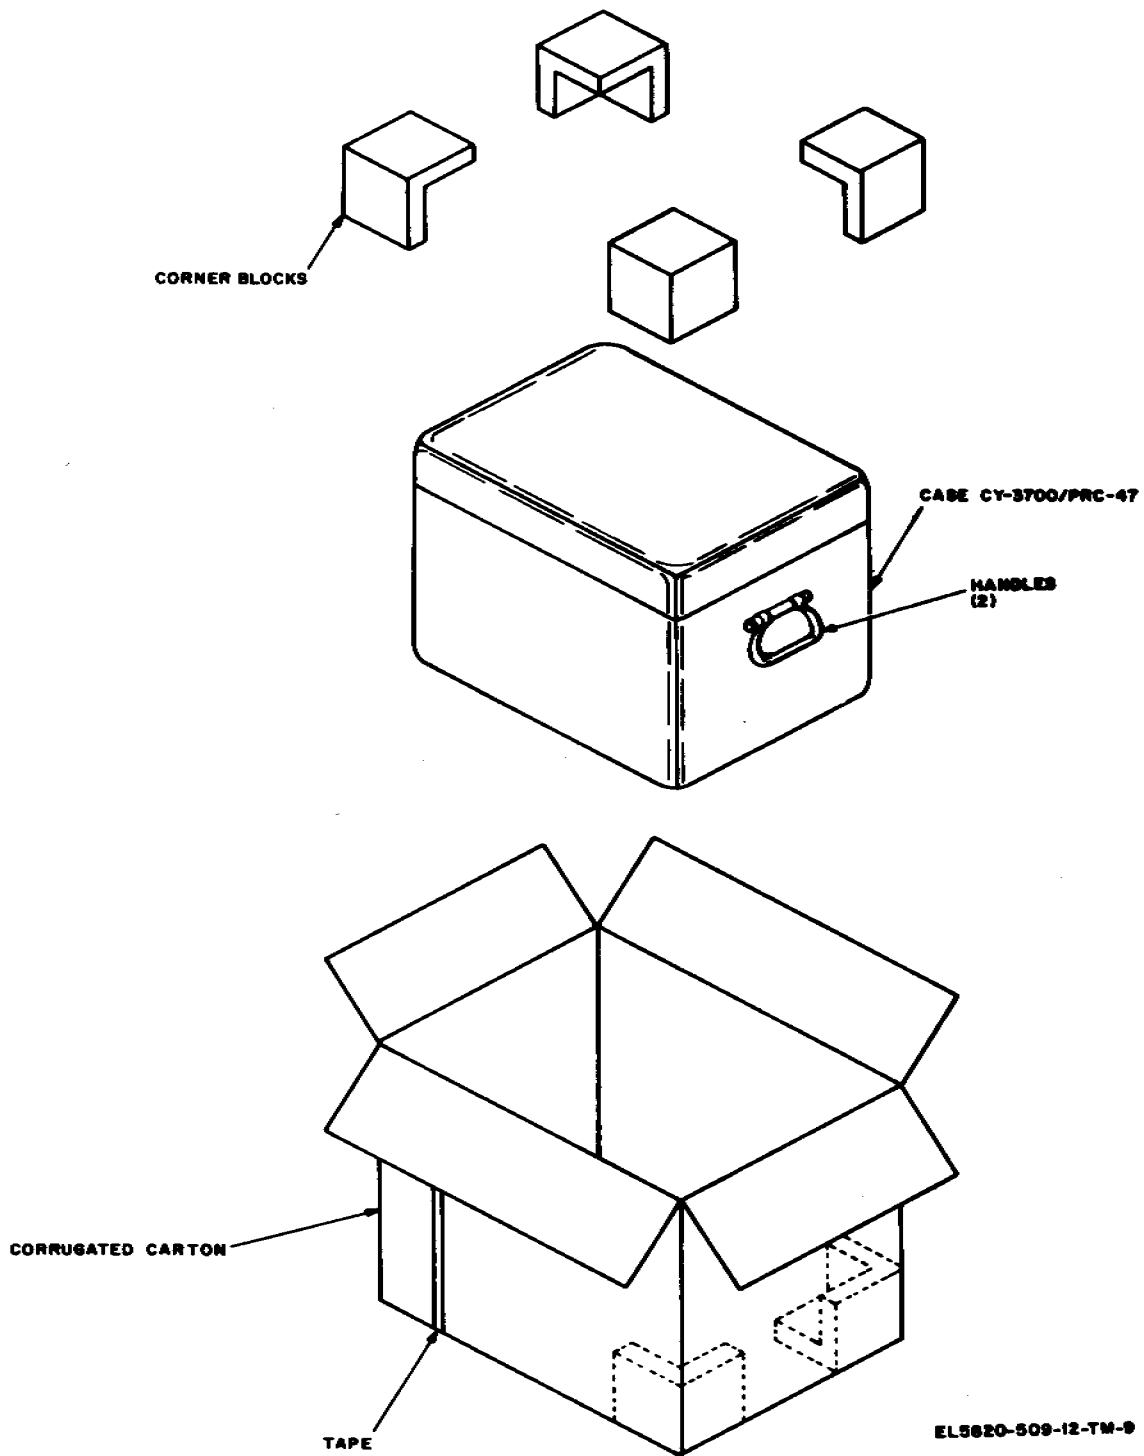

Figure 2-1. Packaging details, Radio Set Case CY-3700/PRC-47 (less electrolyte).
Radio Set AN/PRC-47 is packaged for shipment in two containers. The radio set carton (minus the electrolyte) is shown in figure 2-1. The electrolyte is packaged separately in a smaller carton and is referenced in TM 11-6140-208-15.
a. Unpacking Procedures, Radio Set Carton. Unpack the carton (fig. 2-1) containing the AN/PRC-47 as follows: